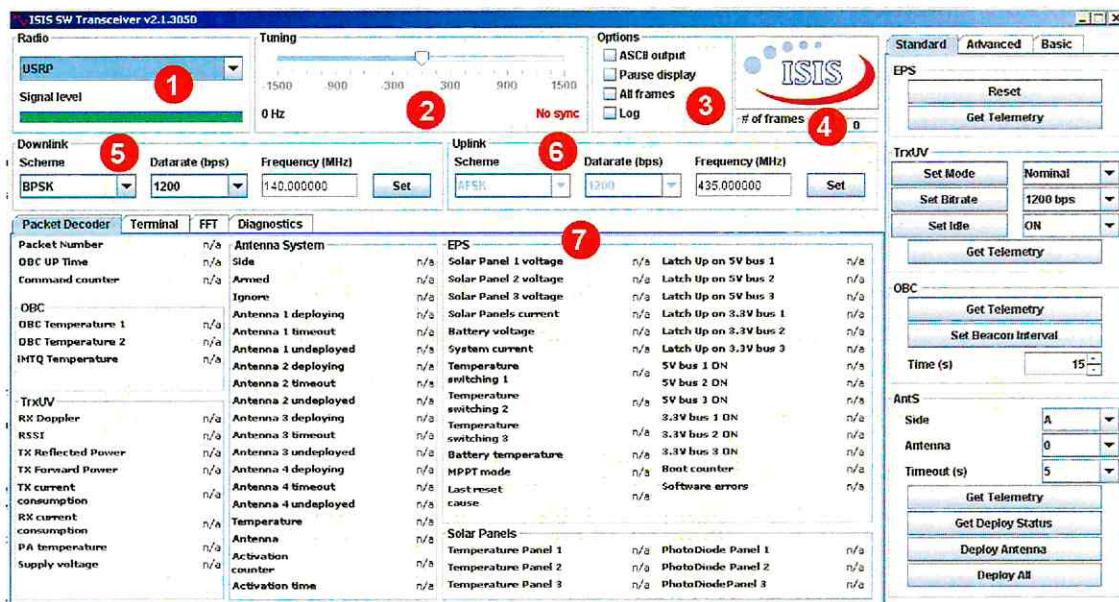
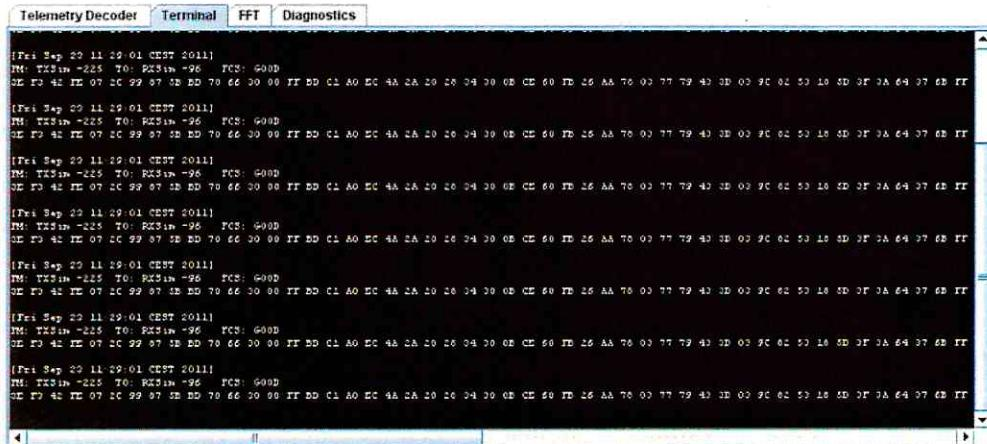

Figure 5.1: ISIS Checkout box main window
Figure 5.5: Terminal panel during data demodulation
ISIS Checkout box can be controlled through his GUI, which is represented in Figure 5.1. The main available controls are highlighted in the Figure and are better detailed in the next paragraphs.
**Input Source Selection:** the top select box is used to select the desired input source. When a new source is selected the demodulator is restarted. The signal level indicator displays the input signal strength: if the indicator bar is red, the input signal is too weak or too strong for optimal operations, while a green bar indicates a good input level. The power indicator increases from left to right, so a full bar indicates a strong signal (item 1 in Figure 5.1).
**Fine tuning:** this control shows the actual reception frequency (relative to the radio center frequency). The frequency information is computed by the demodulation loop and when the receiver locks on an input signal, a lock indicator is displayed (green indicator) (item 2 in Figure 5.1).
**Options panel:** the *ASCII Output* control is used to display packets in the Terminal window as ASCII characters instead of hexadecimal data, the *Pause Terminal* check-box can be used to stop incoming packets display in the Terminal window and the *All Frames* check-box allows to disable the FCS check in AX-25 frames. The *Log* check-box instead enables packets logging (see Section 8 for details) (item 3 in Figure 5.1).
**Received frames:** displays the number of received frames. The counter can be reset by right-clicking on the counter and selecting clear (item 4 in Figure 5.1).
**RX Channel settings:** the *Modulation* select box allows to select one among the available modulation schemes; BPSK is the default value. The *Datarate* select box allows to choose the proper datarate. When a new modulation or datarate is selected the demodulator is restarted. You can also set the receiver center frequency by typing a new value (in MHz) in the text box and clicking the *Set* button (item 5 in Figure 5.1).
**TX Channel settings:** the *Modulation* select box allows to select one among the available modulation schemes; AFSK is the default value. The *Datarate* select box allows to choose the proper datarate. When a new modulation or datarate is selected the modulator is restarted. You can also set the transmitter center frequency by typing a new value (in MHz) in the text box and clicking the *Set* button (item 6 in Figure 5.1).
**Display tab:** This tab is a multi-function panel used to display a wide range of information regarding received packets, input spectrum and received signal statistics (item 7 in Figure 5.1) (see Section 5.2 for further details).
The terminal panel is used to display the received packets, as can be seen in Figure 5.5. This panel is used to display all the received and sent packets. The user can select to display the content of the packet in HEX or in ASCII on the *Option Panel* (item 3 in Figure 5.1). This panel keeps track of the most recent 100 received / transmitted packets.